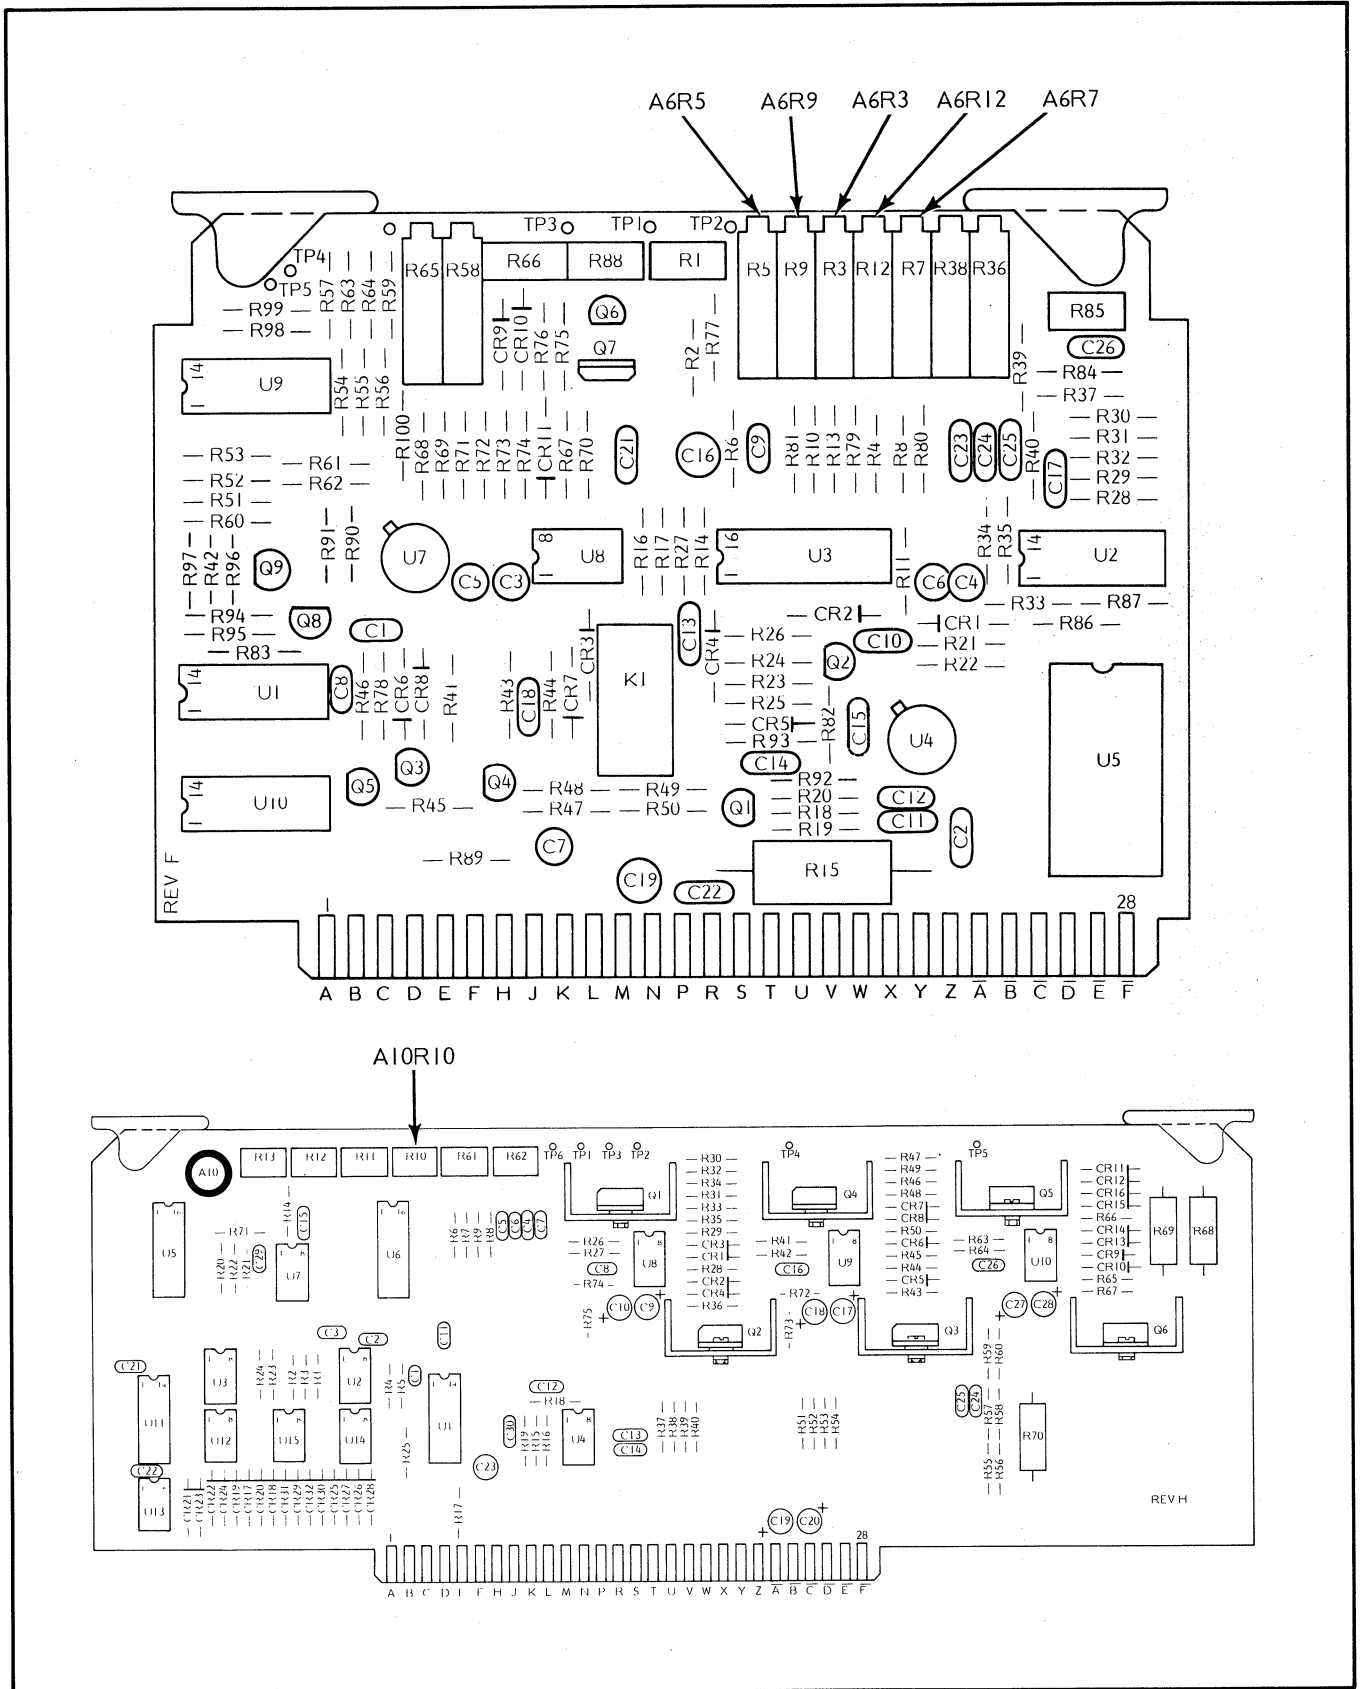

Figure 5-24. Osc 1 Frequency Adjustments
4. Using care to prevent the frequency from going below that shown in column 2 below, adjust A6R5 (A6R12 for 6609A) (Figure 5-24) for the frequency shown in column 3 below.
2. Adjust A6R12 (Figure 5-24) for a counter reading of 1.000 GHz ± 1 MHz.